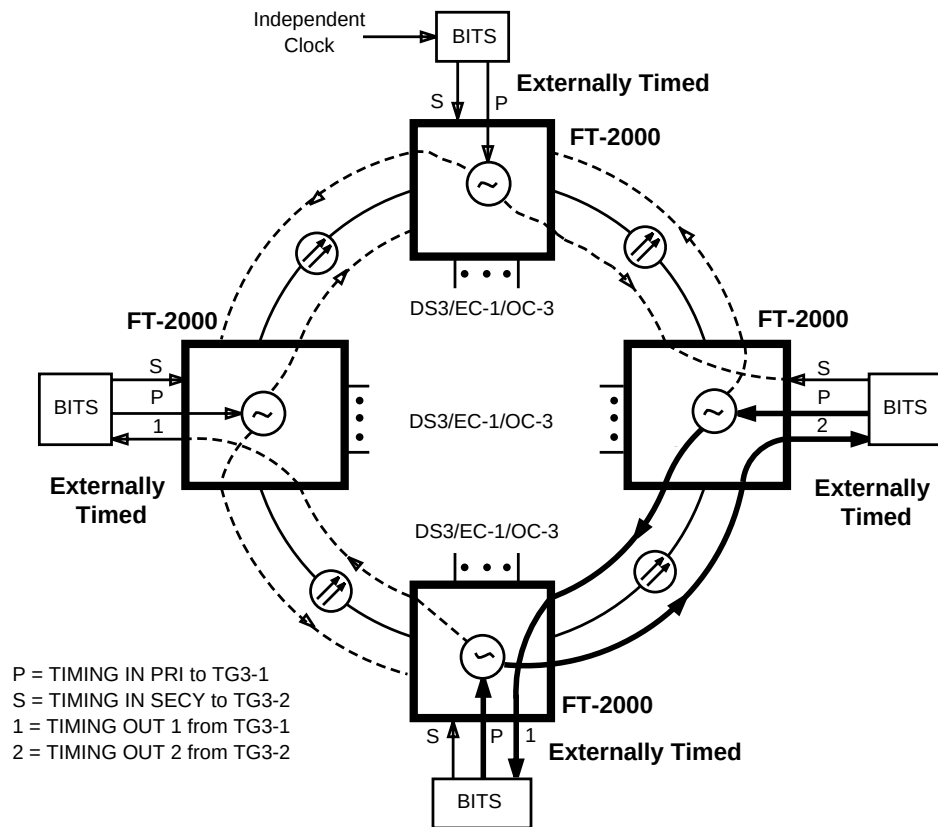

Figure 5-27. Example of a Timing Loop Resulting from Inconsistent DS1 Timing Interfaces
- Timing signal input/output interfaces must be consistent. All nodes with BITS clocks must use the primary timing interface (TIMING IN PRI and TIMING OUT 1), *or* all nodes with BITS clock must use the secondary timing interface (TIMING IN SECY and TIMING OUT 2). Figure 5-27 shows a ring application in this configuration with inconsistent timing interfaces and the resulting timing loop.